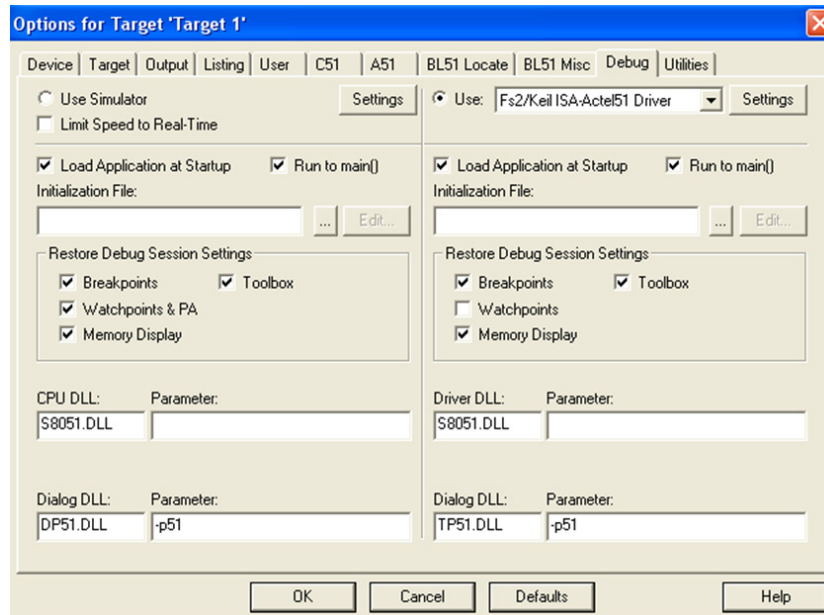

Figure 8 • Debug Setting in Kiel
Step 12: Click on the **Debug** tab and make sure the debug setting is as shown in Figure 8.